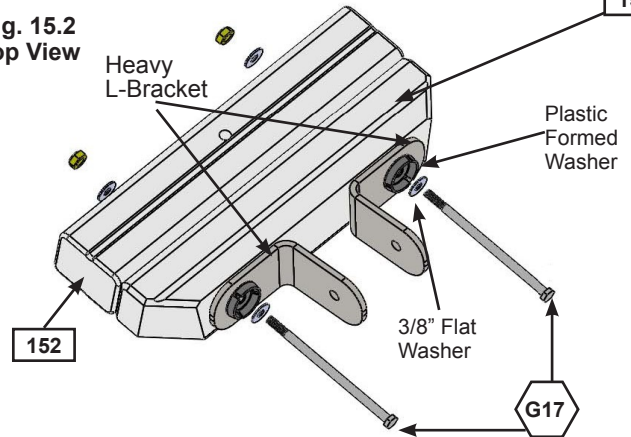

Fig. 15.3
**B:** Attach 3 (WB7) 5/16 x 3" Wafer Bolts (with flat washer and t-nut) to all three holes in each (153) SW Post as shown in fig. 15.3. **IMPORTANT! MAKE SURE ALL 6 BOLTS ARE ATTACHED TO MINIMIZE CHECKING OF WOOD.**